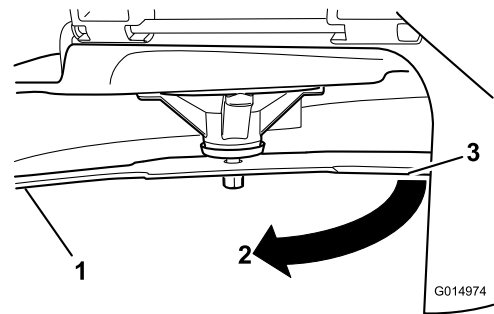

Figure 49
3. Measured distance between blade and the surface (A)
4. Rotate the same blade 180 degrees so that the opposing cutting edge is now in the same position (Figure 49).